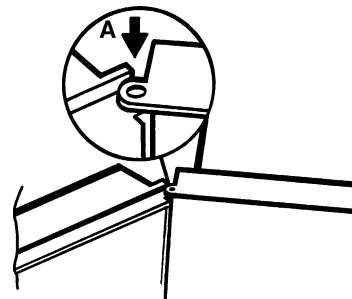

Figure A1.2.1b
- d Using a small screwdriver, or similar, press down on the sprung pin at the top of the door (A in figure A1.2.1b).